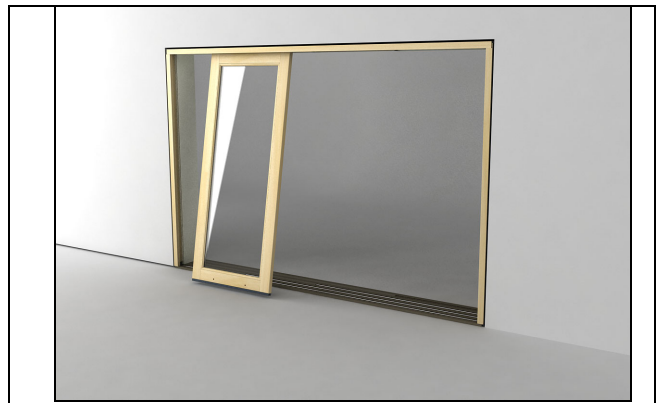

Figure 51
2. Install stationary panel(s) first. Tilt top into place and slide the bottom of the panel onto the sill. Slide stationary panel back tight against side jamb and fasten stationary bracket to panel with #6 x 1 1/2" screws. See figure 51.